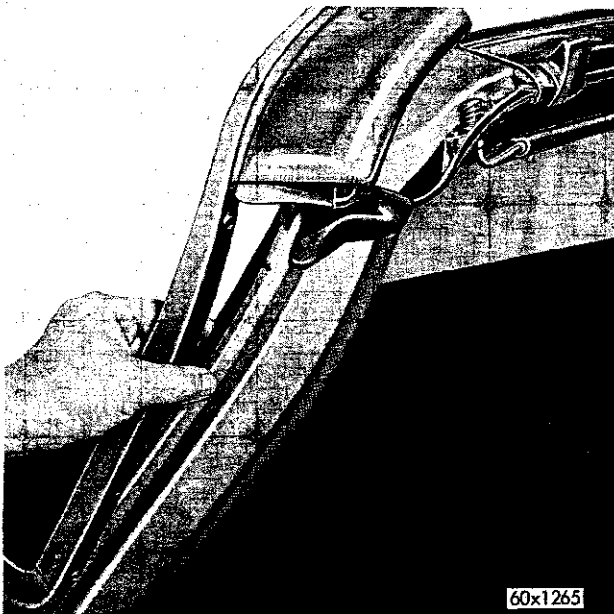

Fig. 69—Removing the "A" Post Outer Side Moulding
- (1) Slide the header cap moulding up against weatherstrip.
- (2) Force the moulding against the weatherstrip, then press the rear edge down over the header.
- (3) Install the screws to hold in position, then tap lightly with a rubber hammer to seat. (Be sure the cap is evenly spaced across the header.
- (4) Install the screws and tighten securely.
- (5) Install the inner and outer trim mouldings. (Refer to Figs. 69 and 70).
- (6) Press tightly against the weatherstrip, engage with the header, and lower moulding, then press down over door hinge pillar ("A" post) and install the retaining screws.
- (7) Seal the windshield.
- (8) Install the sun visor and wiper arms. Test for leaks and clean the windshield.